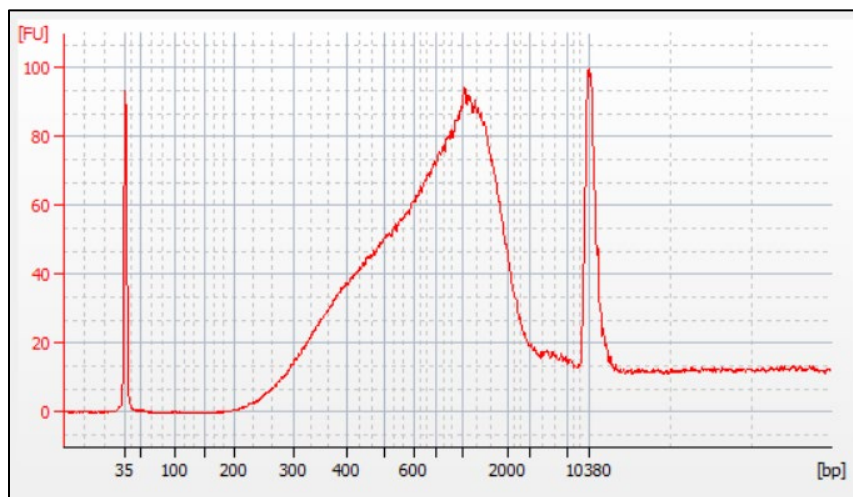

Figure 25. An electropherogram example from a library prepared from PBMC and quantified using the Agilent 2100 Bioanalyzer.
- Use the bioanalyzer results to determine library quality and average size for qPCR. An example of a typical bioanalyzer profile for an NGS library that has been successfully purified and size selected is shown in Figure 25, below.